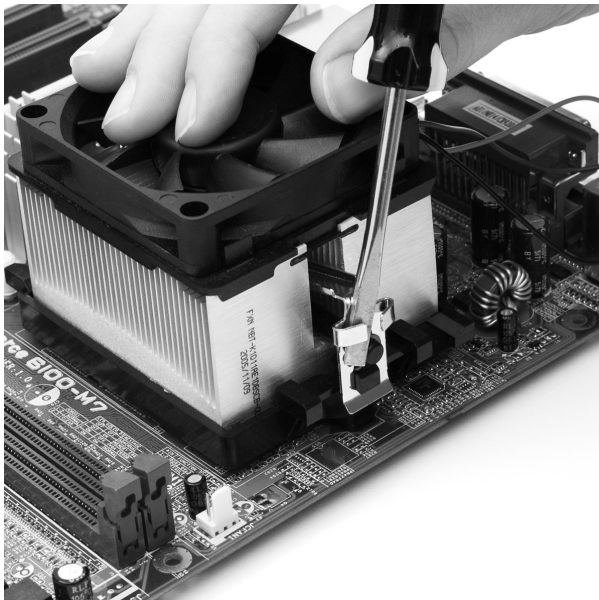

FIGURE 5.12 Using a straight-slot screwdriver to move the mounting bracket
4. Using your screwdriver as a lever, press down on the mounting bracket on the other side of the CPU socket and snap the bracket into place (Figure 5.12). If this makes you nervous, don't worry—that's normal. Most techs are surprised by the amount of force needed to mount the heatsink and fan assembly into place.